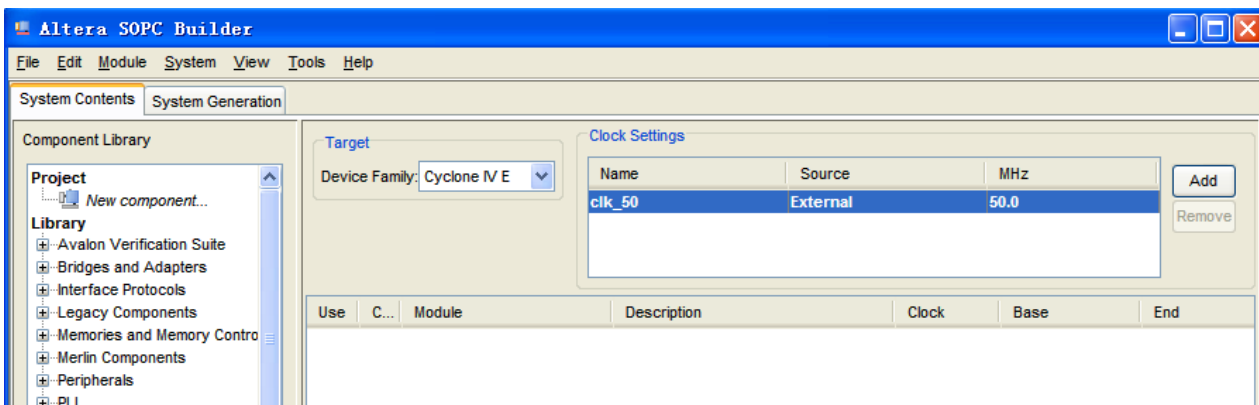

Figure 7-13 Rename Clock Name
7. Click the **clk_0** name in the Clock Settings table to rename **clk_0** to **clk_50**. Press **Enter** to complete the update, as shown in **Figure 7-13**.